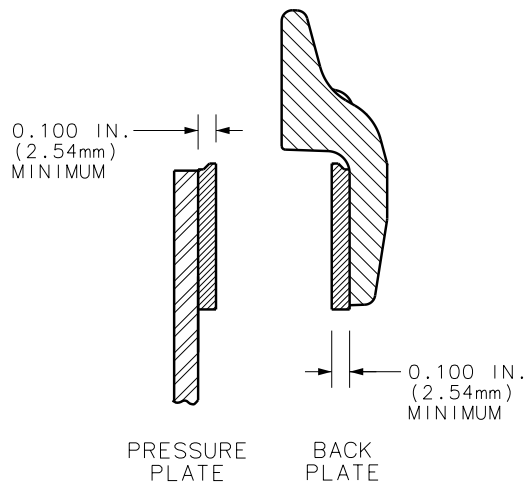

Figure A1
The minimum replacement thickness on metallic and organic linings is 0.100 inch (2.54 mm). Refer to Figure A1.
- First, measure linings as shown in Figure A1. Linings worn below .100 inch are cause for replacement.